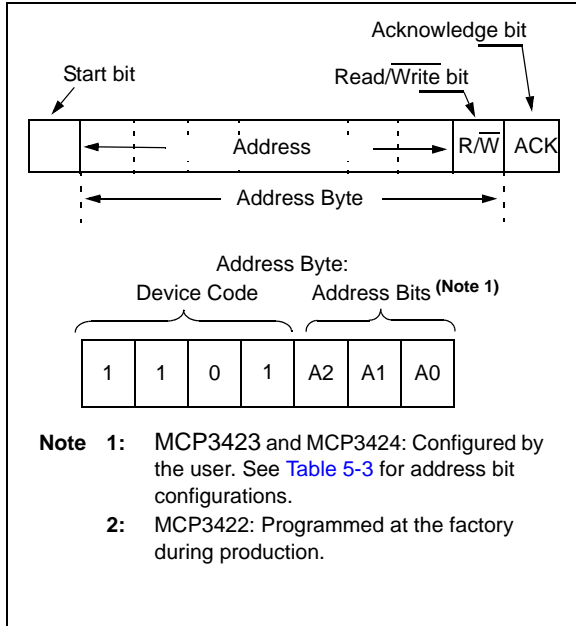
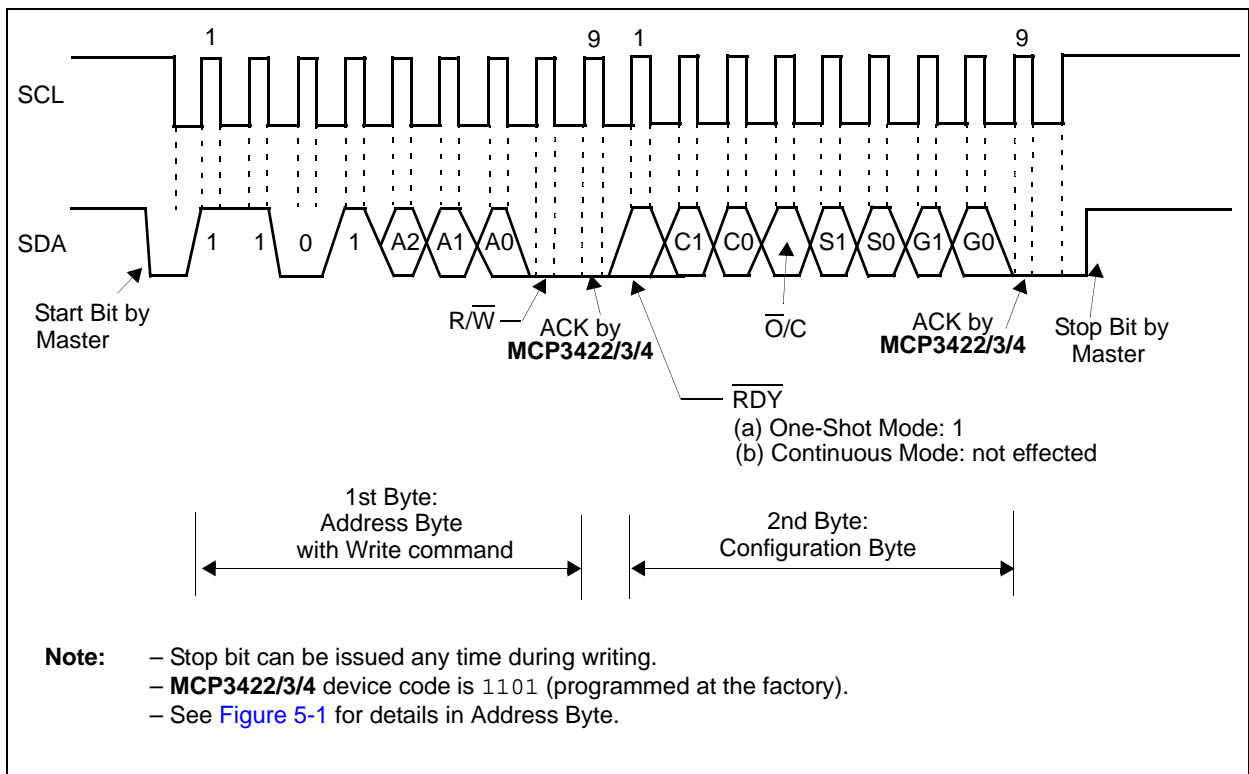
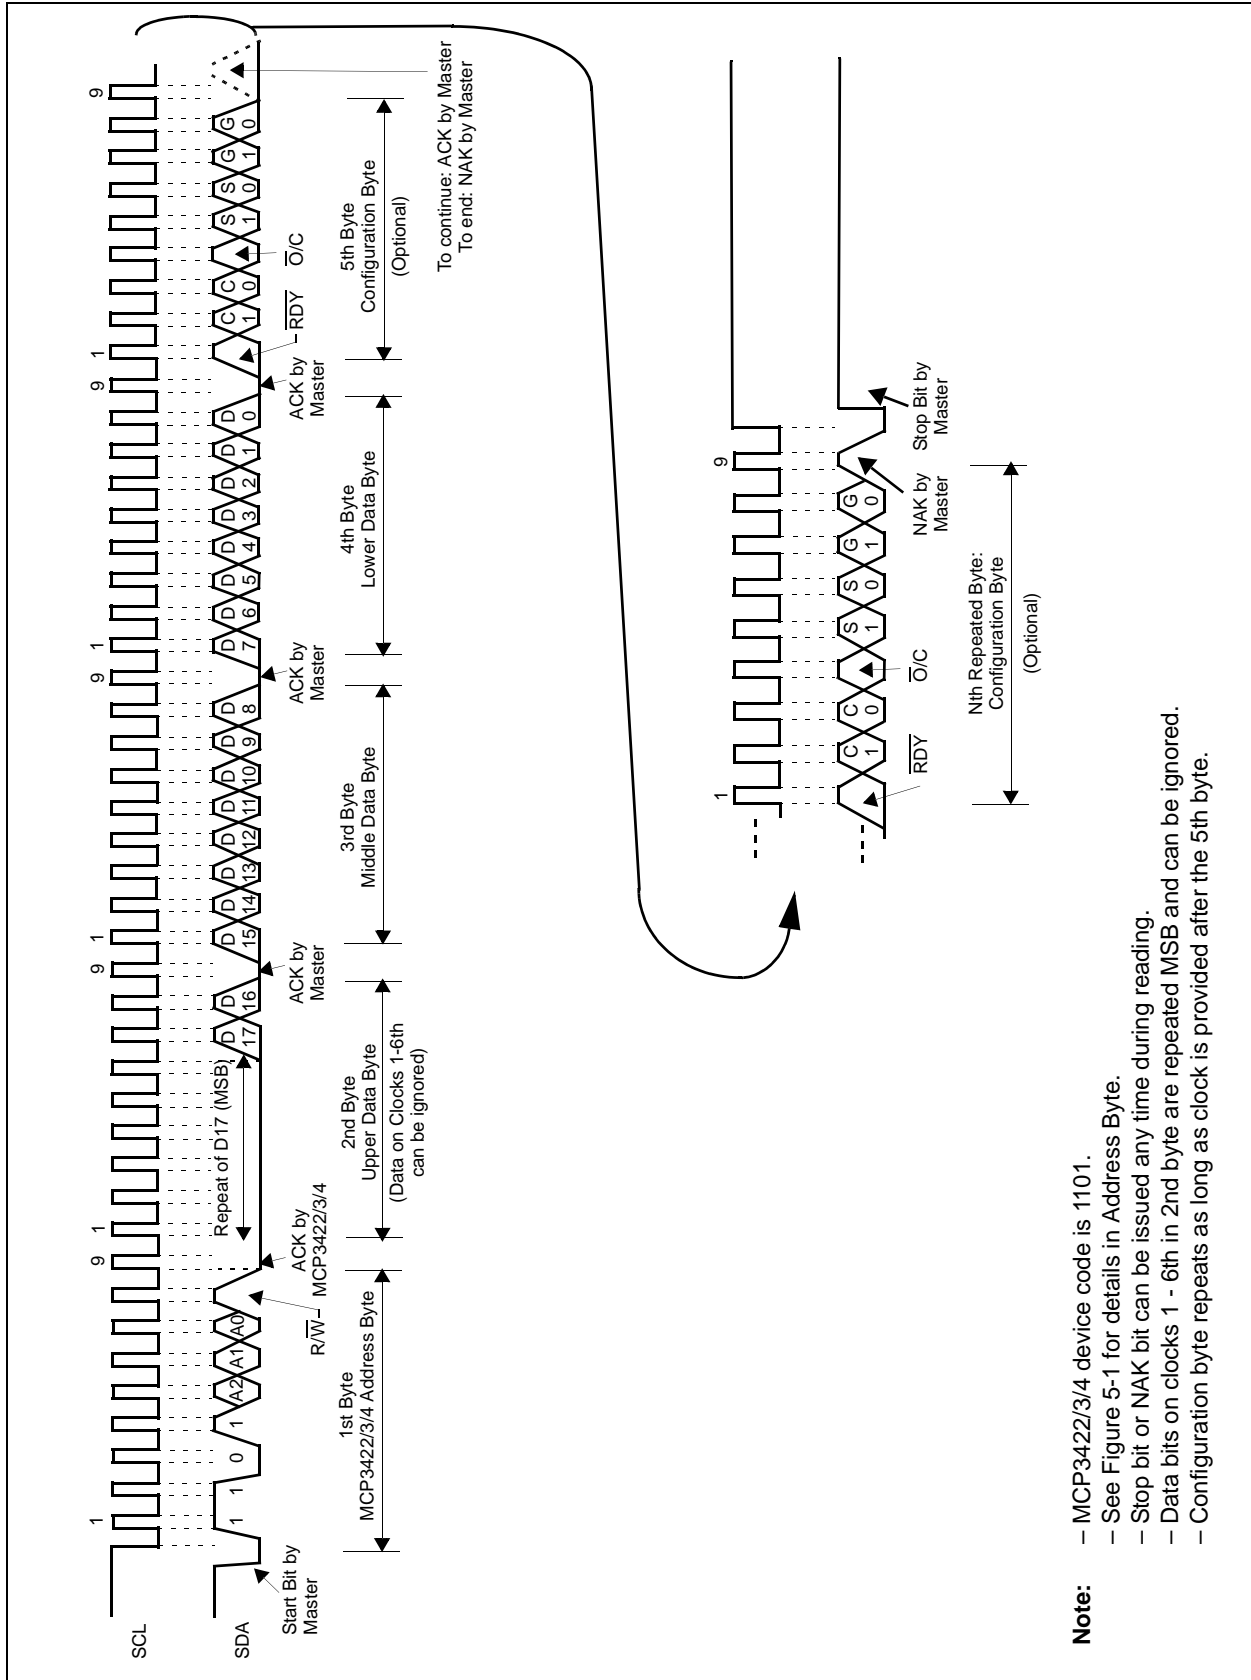
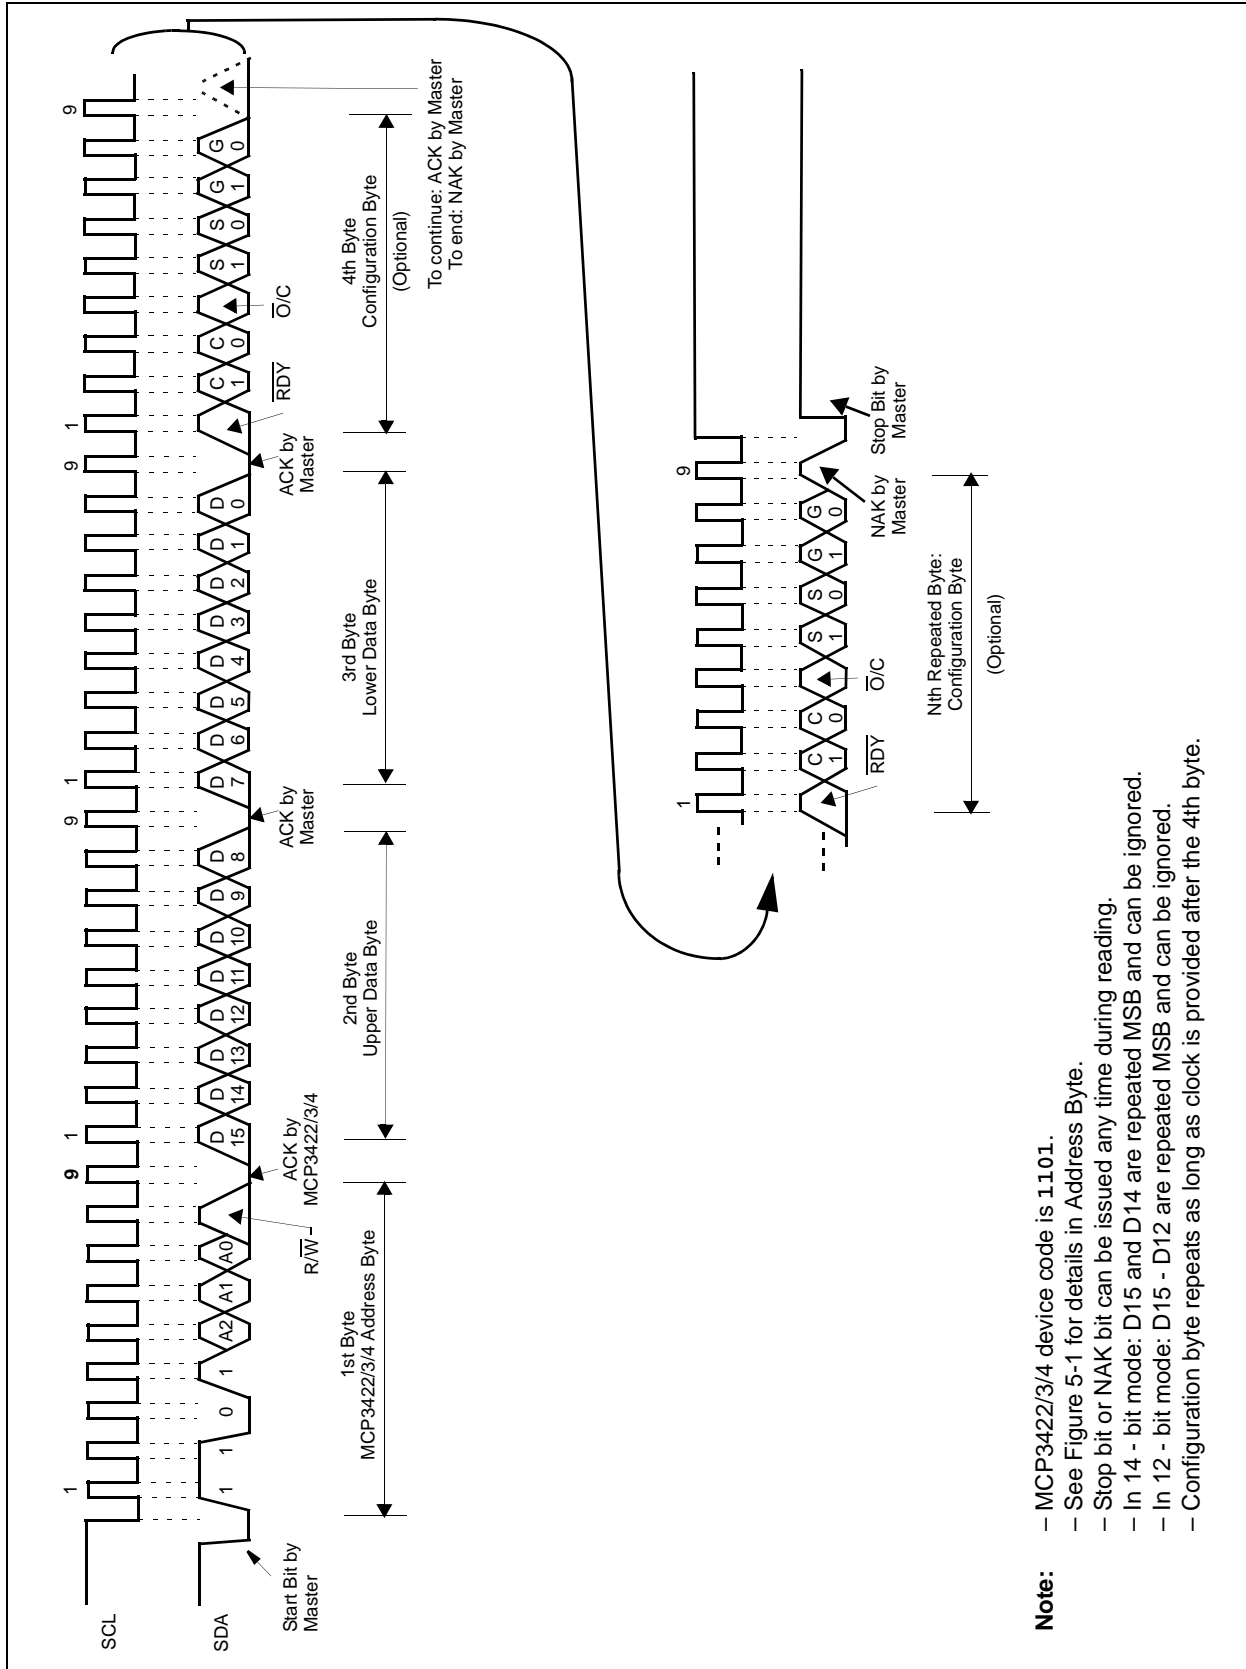

FIGURE 5-1: Address Byte.
FIGURE 5-3: Timing Diagram For Writing To The MCP3422/3/4.
FIGURE 5-4: Timing Diagram For Reading From The MCP3422/3/4 With 18-Bit Mode.
FIGURE 5-5: Timing Diagram For Reading From The MCP3422/3/4 With 12-Bit to 16-Bit Modes.
Figure 5-4 and Figure 5-5 show the examples of reading the conversion data. The user can rewrite the configuration byte any time for a new setting. Table 5-1 and Table 5-2 show the examples of the configuration bit operation.
The first byte after the START bit is always the address byte of the device, which includes the device code (4 bits), address bits (3 bits), and R/W bit. The device code for the devices is 1101, which is programmed at the factory. The I²C address bits (A2, A1, A0 bits) for the MCP3423 and MCP3424 are user configurable and determined by the logic status of the two external address selection pins on the user's application board (Adr0 and Adr1 pins). The Master must know the Adr0 and Adr1 pin conditions before sending read or write command. Figure 5-1 shows the details of the address byte.
Figure 5-1 shows the address byte. Figure 5-3 through Figure 5-5 show how to write the configuration register bits and read the conversion results.
Figures 5-4 and 5-5 show the timing diagrams of the reading.
- See Figure 5-1 for details in Address Byte.